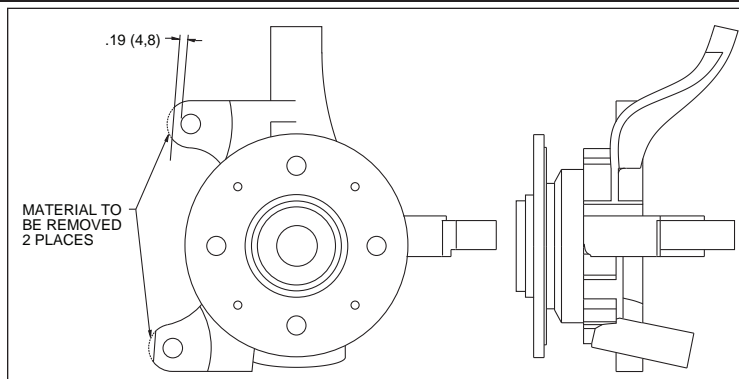

Figure 2. Spindle Modifications
- Before any tear-down or disassembly begins, modifications are required to the stock spindles. This includes removing some material from the stock spindle caliper mounting area that will interfere with the assembly of the Wilwood disc brake kit. It is recommended that these modifications be performed by a qualified machine shop. Please refer to the modification procedure and Figure 2, page 3.
- These modifications should be performed by a qualified machinist. Refer to Figure 2, right. Only one view of the spindle is shown, but the modification needs to be performed on both spindles.